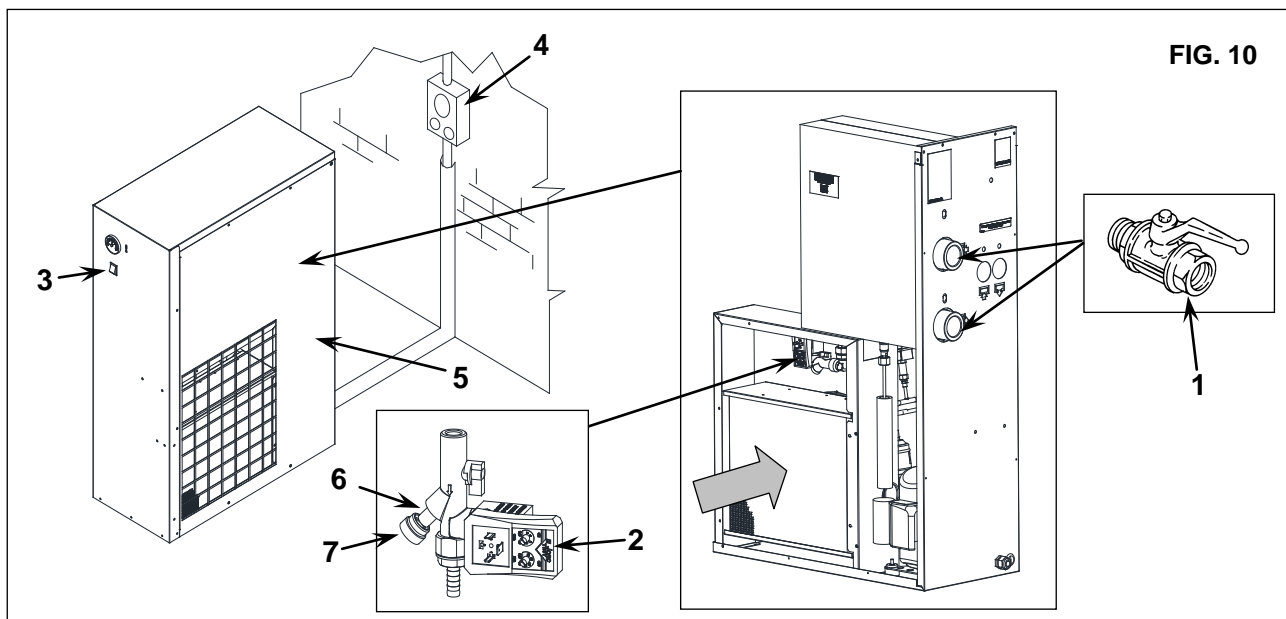

FIG. 10
### 15.2 CLEANING OF THE AUTOMATIC CONDENSATE DISCHARGER FILTER (Fig. 10)
- Close the cock Ref. 1 Fig. 10
- Release the pressure in the dryer by pressing the condensate drain "TEST" pushbutton located on the steam trap Ref. 2 Fig. 10.
- Switch off the machine by pressing the STOP button Ref. 3 Fig. 10
- Turn on the supply automatic differential switch Ref. 4 Fig. 10
### 15.3 CLEANING THE CONDENSER (Fig. 10)
- Remove the panels Ref. 5 Fig. 10
- Clean the condenser fins Ref. 1 with compressed air (Fig. 10) **DO NOT USE WATER OR SOLVENTS**
- Close the panels Ref. 5 Fig. 10